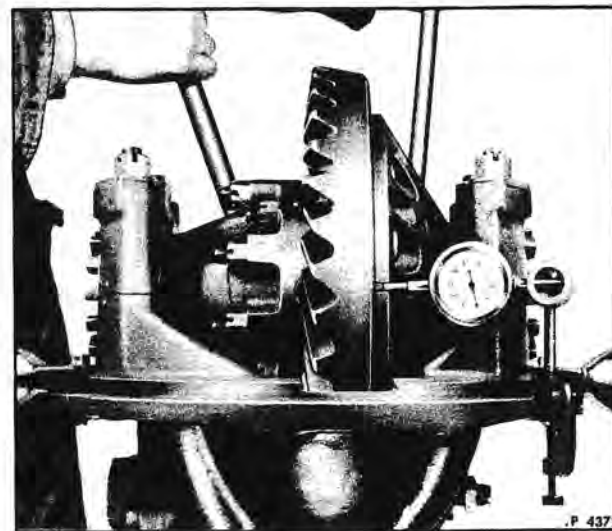

Figure 14—Differential Bearing Pre-Load Check
1. Using dial indicator at back face of drive gear (1) as shown in figure 14, loosen bearing adjusting ring (8), on flanged side, enough to notice end play on dial indicator.
3. Tighten both adjusting rings (8) one notch each from 0.000" end play position to impose correct preload on differential side bearings.